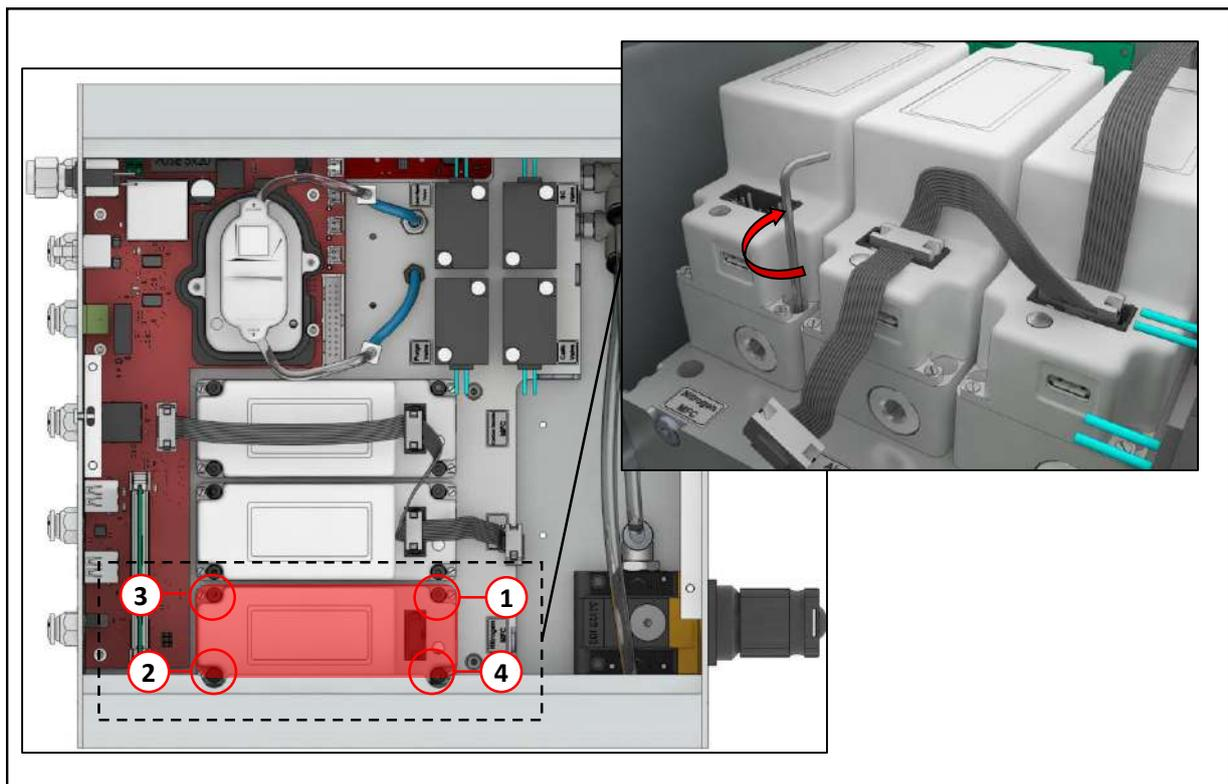

Figure 134. How to loosen the mass flow controller screws
2. Turn clockwise the screw number 1 by using a hexagonal key (2.5 mm). Complete almost one turn of the screw. Do not tighten completely the screw (see Figure 134).
3. Proceed turning the screw into the opposite hole (the screw number 2). Complete almost one turn of the screw. Do not tighten completely the screw (see Figure 134).
4. Continue with the screw number 3 and number 4. Complete almost one turn of the screws. Do not tighten completely the screw (see Figure 134).